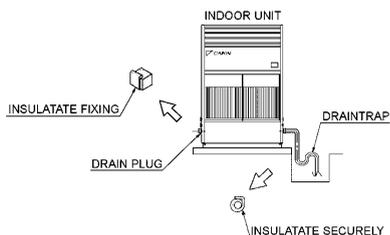

FIG 6
- Assemble the unit as shown in FIG.6.
- The drain pipe outlet can be installed on either the left or right side. The drain plug can be removed and placed on either the left or right side as well. It is necessary to connect drain pipe both upper and lower point (FIG.6)
- After closing the drain pipe on the opposite side of the unit, completely wrap the drain pipes with insulation (FIG.6).